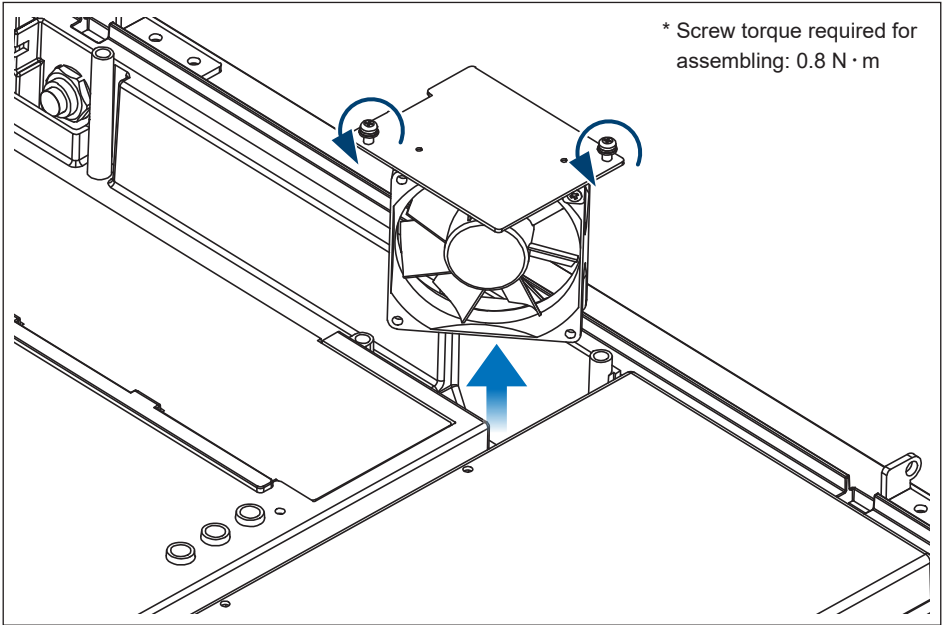

Figure 5-13: Take off the internal fan 1
- (3) Loose two self-retaining screws and remove the fan cabinet. **(Figure 5-13)**